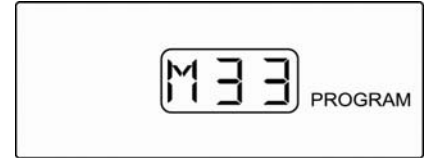

Figure 2-15
- 4) To adjust the Hour (H), Press and hold the “S” button for 3 seconds until the first digit begins to flash. Note: The Hour (H) will be displayed in a 24-Hour Format. Use the “Up” and “Down” arrows to adjust the numeric value and the “Left” and “Right” arrows to change the digit being adjusted. Once the Hour (H) has been entered, press and hold the “S” button for 3 seconds to proceed to the Minute (M) setting (See **Figure 2-15**).